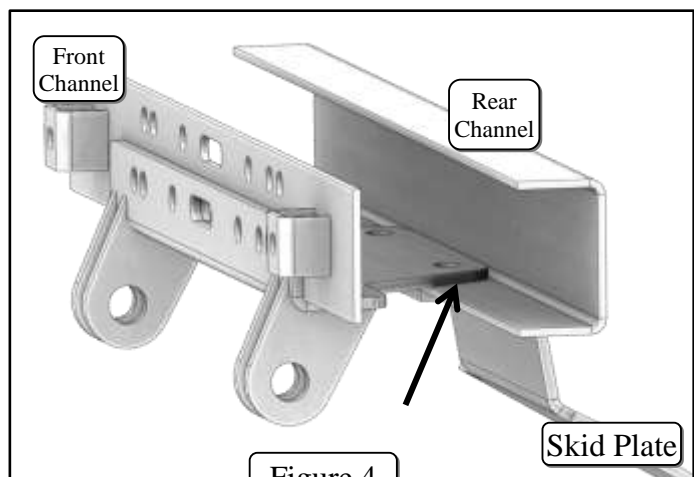

Figure 4
3. Hold plate up to machine making sure that the back side of the mount goes over the top of the rear channel as shown in Figure 4.